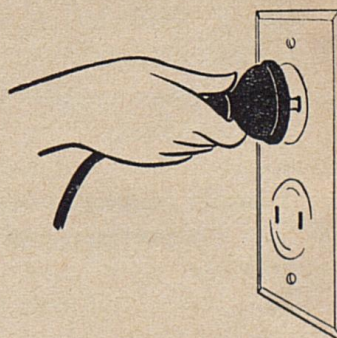

Fig. 22
3. Disconnect the iron by removing plug from the wall outlet - never by removing plug at the iron. Fig. 22.